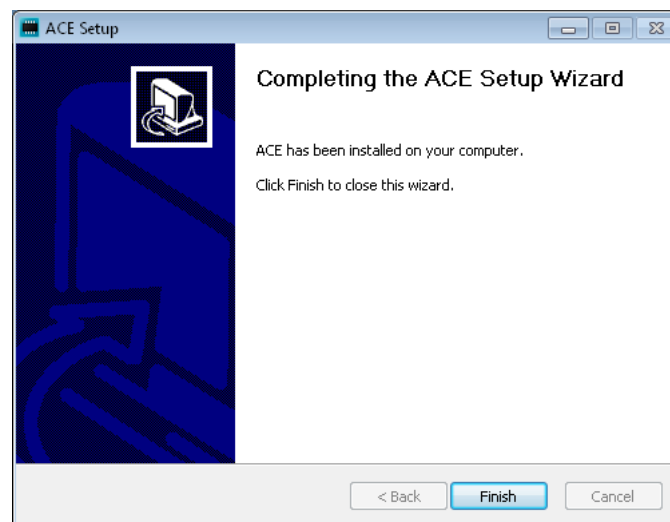

Figure 2-7: ACE Setup Wizard Step 7
Step 7: ACE is now installed, Figure 2-7. Click “Finish” to exit the wizard.